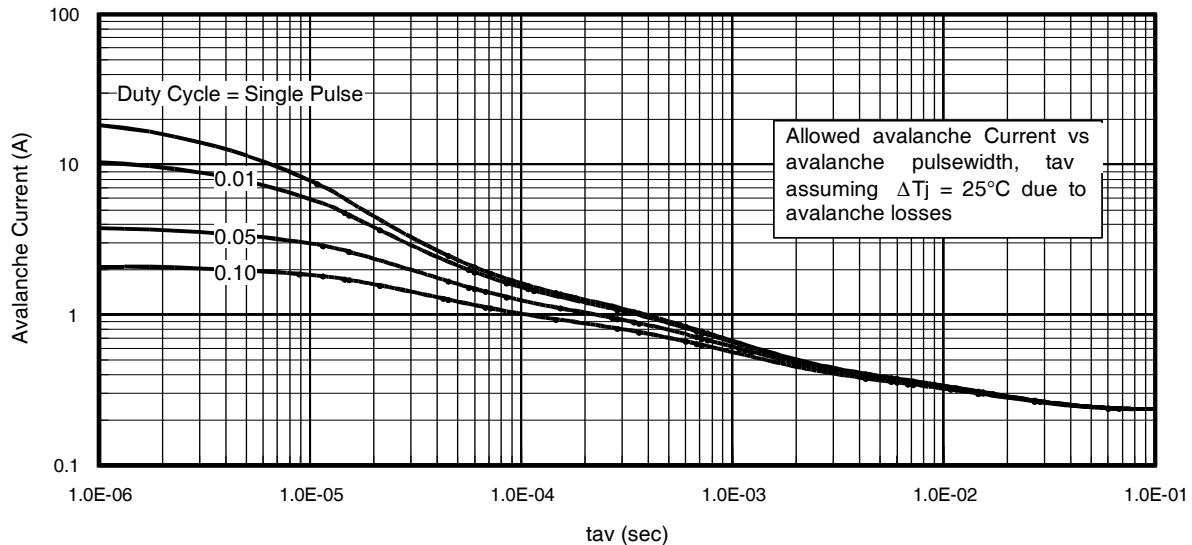

Fig 15. Typical Avalanche Current vs.Pulsewidth
Notes on Repetitive Avalanche Curves , Figures 15, 16: (For further info, see AN-1005 at www.irf.com)
7. ΔT = Allowable rise in junction temperature, not to exceed T_{jmax} (assumed as 25°C in Figure 15, 16).